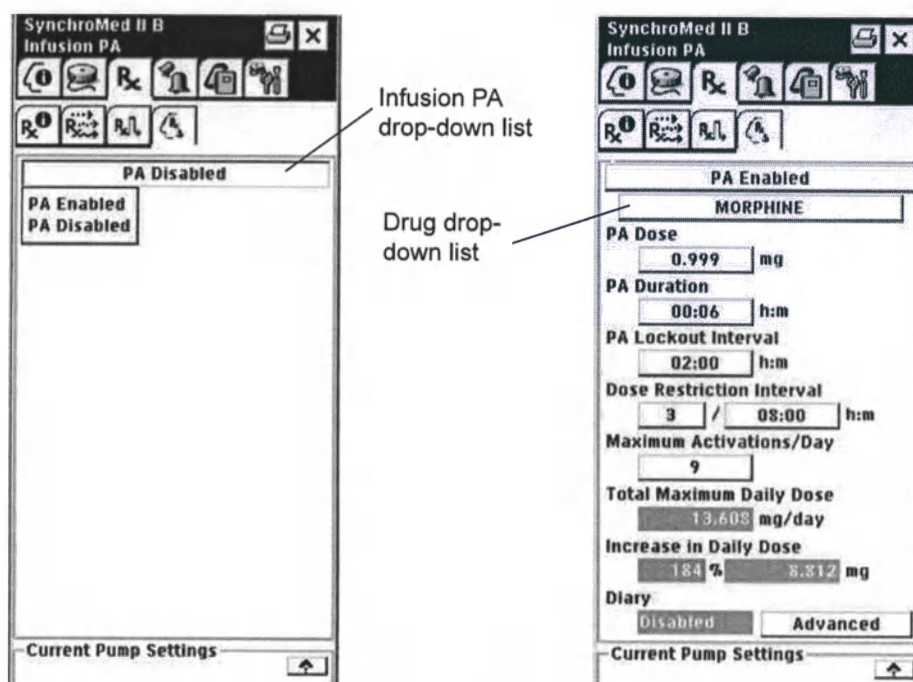

Figure 3. Infusion PA drop-down list and data entry screen.
4. From the Infusion PA drop-down list (Figure 3), select PA Enabled. The Infusion PA data entry screen appears.
5. If the primary drug is not displayed, select the primary drug from the drug drop-down list (Figure 3). The default setting is the primary drug.